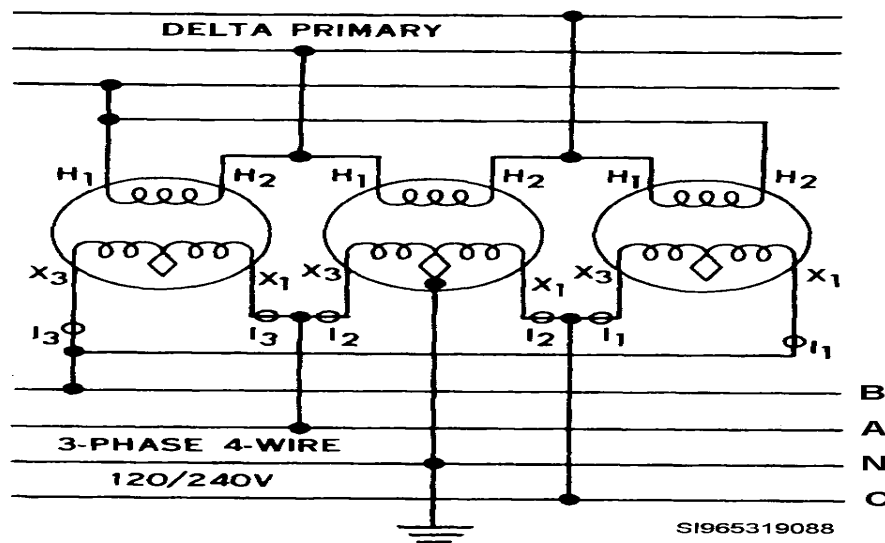

Figure 5, Delta/Delta for Lights and Power
**Step 8: Primary Connection for a delta / delta as seen in Figure 5 above.**
**Step 9: Secondary Connection for a delta / delta as seen in Figure 5 above.**